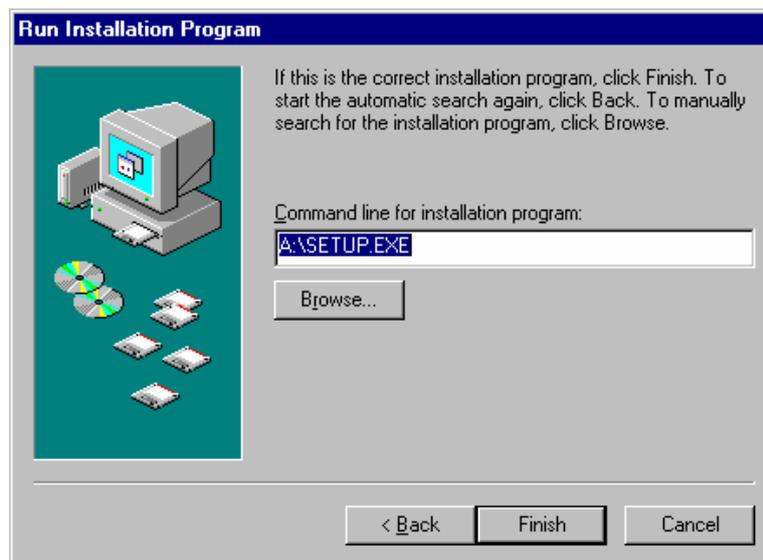

Fig. 12.5 [Run Installation Program] dialog box
- (4) Click the <Next> > button. The dialog box shown in Fig. 12.5 will then be displayed.